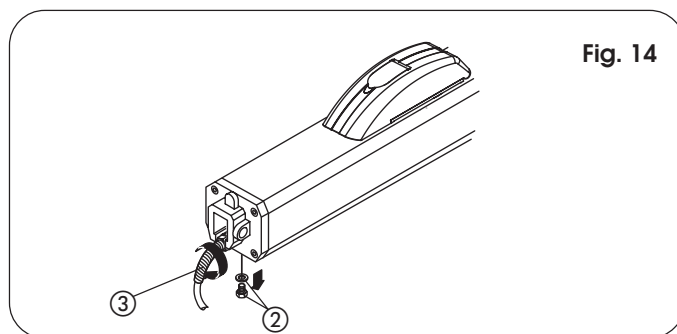

Fig. 14
- A) Insert the two anti-vibration spacers ② onto the front flange.
- B) Introduce the housing, pressing it firmly on the rear cover ①.
- C) Secure the housing with the self-tapping screw ③.
- D) Fit the front cover ⑤ on the housing and fasten it with FIX plug ④.
- 13) Fit the electric cable bend guard (ref.③, Fig. 14).
- Remove the breather screw (Fig. 14, ref. ②)